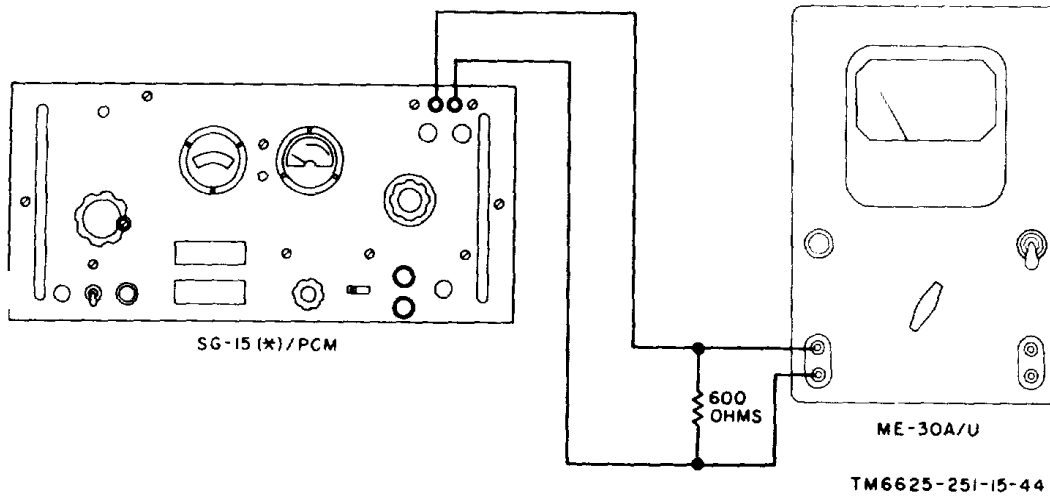

Figure 8-5. Noise test for SG-15(*)/PCM, test setup.
- (1) Voltmeter, Meter ME30A/U.
- (2) One 600-ohm \pm .5% noninductive resistor.
- b. *Test Conditions and Connections.* Connect the equipment as shown in figure 8-5.